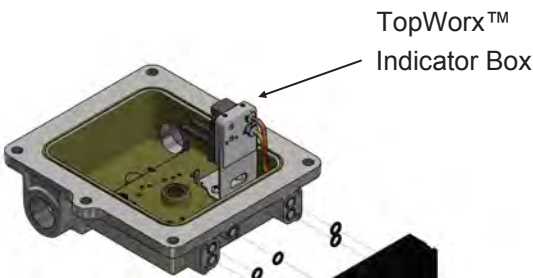

Fig.1
All valves are configured for internal pilot pressure supply. Pilot pressure supply is from Pilot Valve mounted inside the TopWorx Indicator Box as shown in Figure 1.
- When assembling this product to a pilot to ATEX 2014/34/ EU, take the least favorable category, maximum working pressure and temperature into account. Compliance with the Essential Health and Safety Requirements has been assured by compliance with the European Standards EN 13463-1. The mounting position for the pilots as shown in figure 1 (a).
- **ASSEMBLY OF 1.06Cv VERSIONS:** 1.06Cv series valves are directly mounted on Indicator Box. Spring return and dual pilot both mount with 4 screws. See figure 1 & 2. TopWorx Indicator Box shown in the pictures are only for illustration purpose.